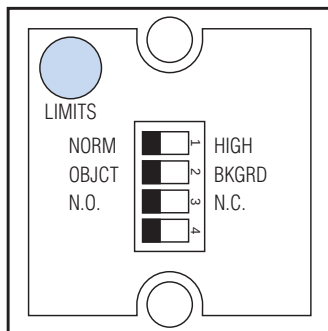

Figure 1
sively at the set points representing the desired inner (Dwi) and outer (Dwo) limits shown in Figure 1. When the LIMITS push-button is pressed at each set point, the respective distances (Dwi and Dwo) from the sensor are automatically calculated and stored in the sensor memory to represent the sensing window limits. During operation, the calculated distance (D) between the sensor and the object is compared to the distances between the sensor and the set window limits. If "D" is at or within the window limits, an output change takes place and remains unchanged until the echo either does not return or it returns from outside the window limits.
A unique feature available to the user of these sensors is the ability to quickly set up each sensor for a specific application. The sensor is configured through either three or four slide switches, depending on the model, and a push-button (See Figure 1) located inside a wa-